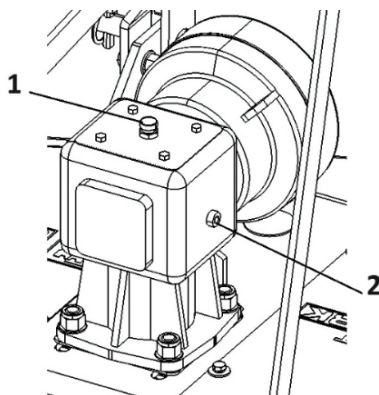

Fig. 7. Oil check and refill points in the bevel gear:
- unscrew the filler plug (1 in Fig. 7) and the inspection plug (2 in Fig. 7) on the bevel gear;